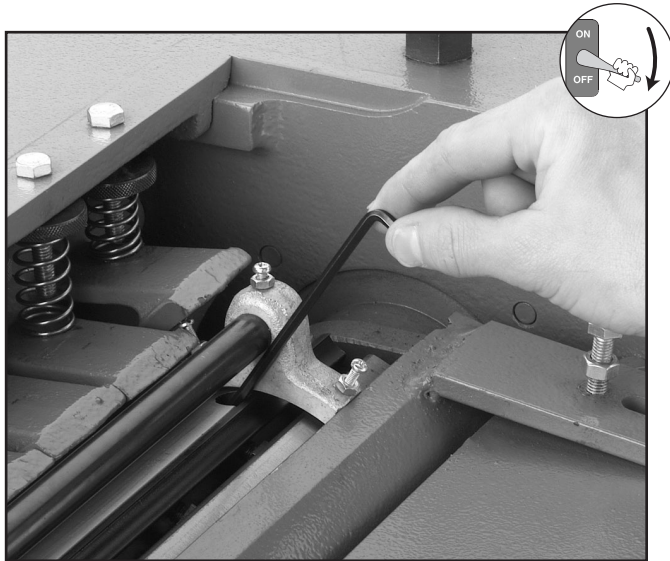

Figure 9. Adjusting knife jack screws.
4. Insert a 4mm hex wrench into the jack screws (accessible from holes in the cutterhead) as shown in **Figure 9**. Turn these screws to lower the knife enough to clear the jig when it is placed on the cutterhead body.